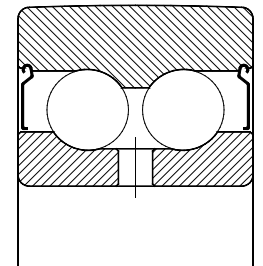

Fig. 2.22
**Double row cam rollers** (fig. 2.22) are based on double row angular contact ball bearings of series **32...** and **33...**